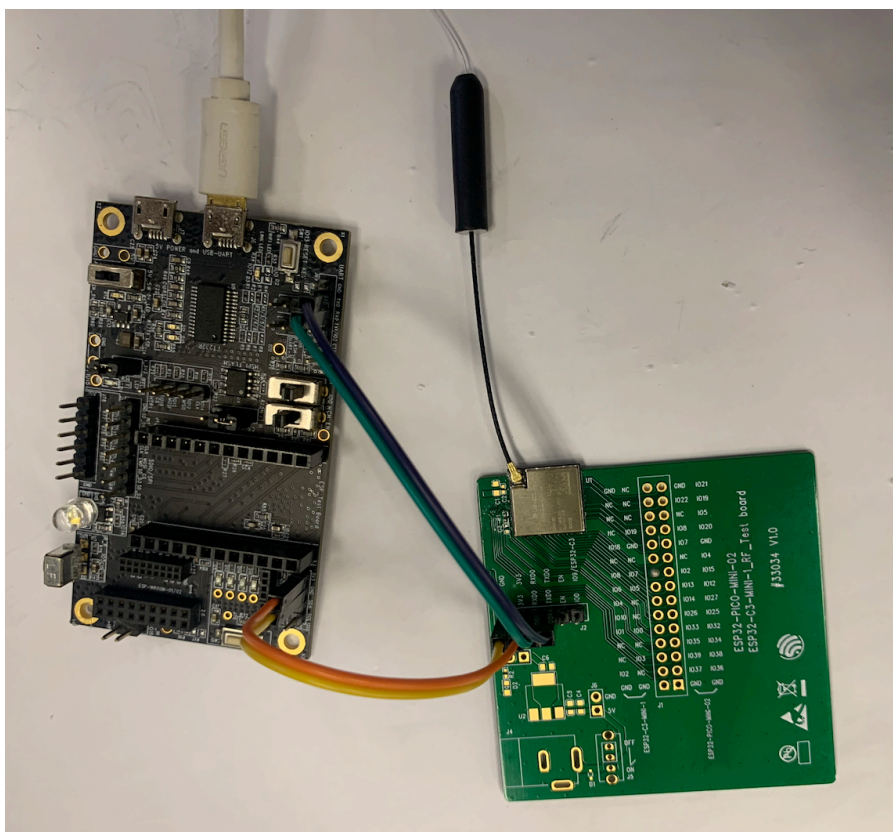

Figure 2: Hardware Connection
1. Solder the ESP8684-MINI-1U module to the RF testing board as shown in Figure 2.